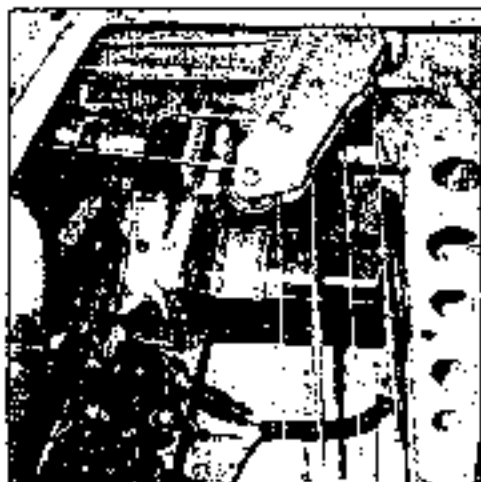

Fig. 5-70. Flap motor, reduction gear box and stop assembly
- (1) Electric motor (See Fig. 5-70)
- (2) Reduction gear box (See Fig. 5-70)
- (3) Stop assembly (See Fig. 5-70)